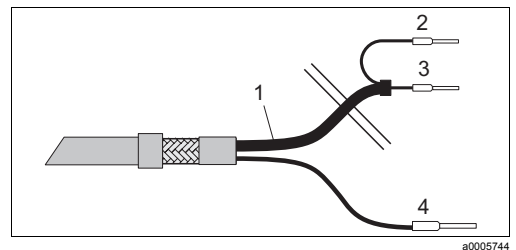

Fig. 18: Cable CPK1: device connection
1. Cut off end sleeves 2 and 3 of the coaxial cable (Fig. 18).